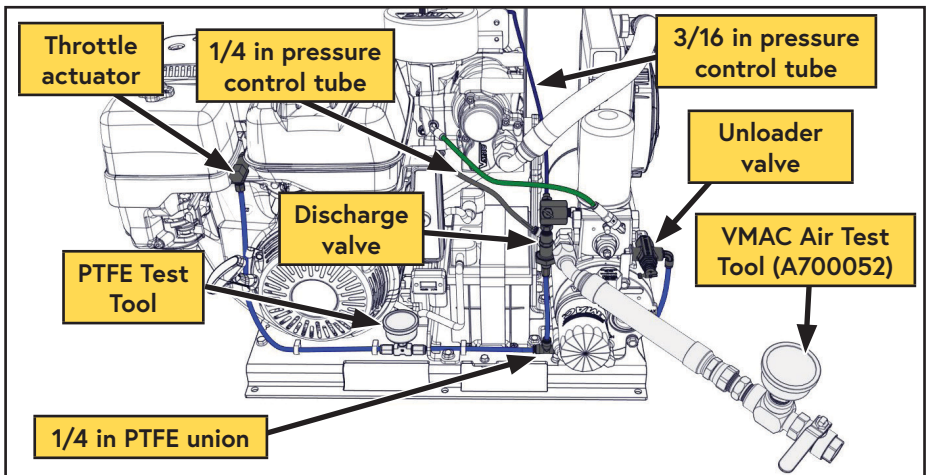

Figure 55 — Test equipment installed
- ☐ Install a test tool on the system outlet (Figure 55).
- ☐ Install the PTFE test tool (page 67) on the 1/4 in throttle tube (Figure 55).